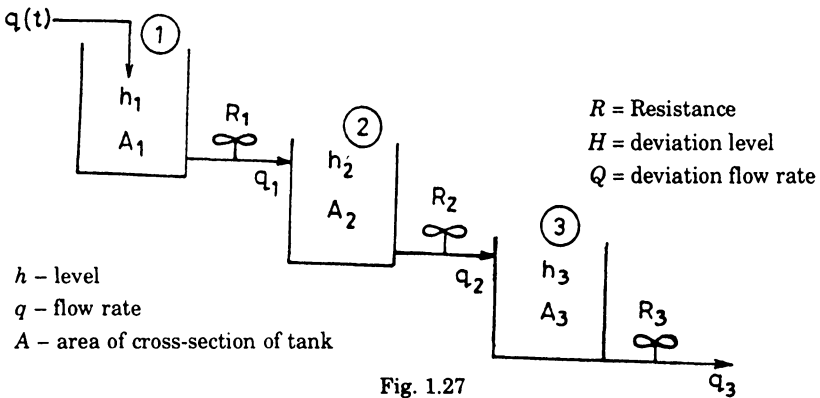

Fig. 1.27
**1.45. Non-interacting systems :** An example is arranging tanks one below the other as shown in Fig. 1.27.